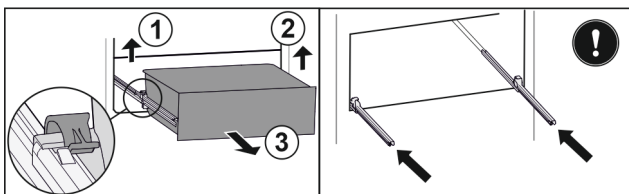

Fig. 149
- ▶ Lift left clamp and simultaneously pull drawer forwards on the left. Fig. 149 (1)
- ▶ Lift right clamp and simultaneously pull drawer forwards on the right. Fig. 149 (2)
- ▶ Remove drawer to the front. Fig. 149 (3)